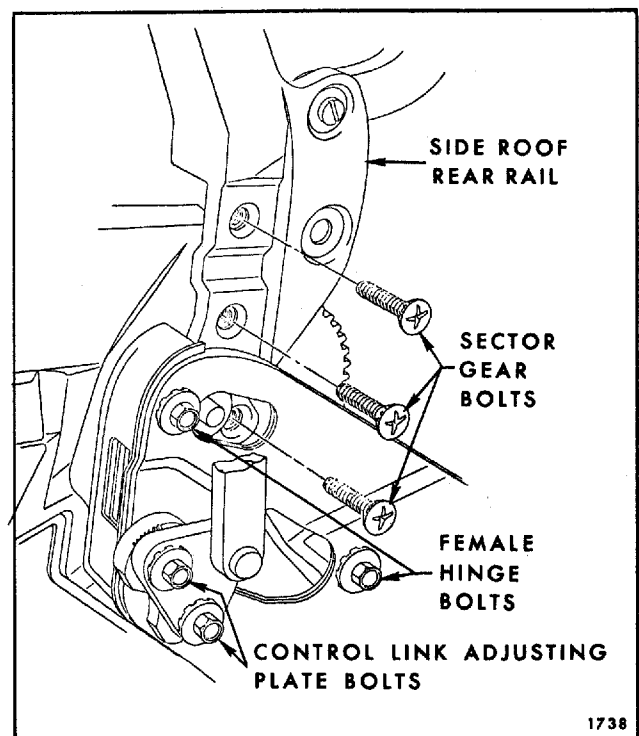

Fig. 6-73—Actuator Attachment
5. Remove bolts securing side roof rear rail to sector gear (Fig. 6-73).
6. Mark location of control link adjusting plate on folding top compartment brace (Fig. 6-73).
8. Mark location of female hinge attaching bolt washers on folding top compartment brace (Fig. 6-73).
1. Install female hinge attaching bolts to new actuator assembly, using washer scribe marks as guide (Fig. 6-73).
2. Install control link adjusting plate attaching bolts, using scribe mark of control link as guide (Fig. 6-73).
3. Manually move sector gear until all attaching bolts can be easily installed; then tighten sector gear attaching bolts (Fig. 6-73).